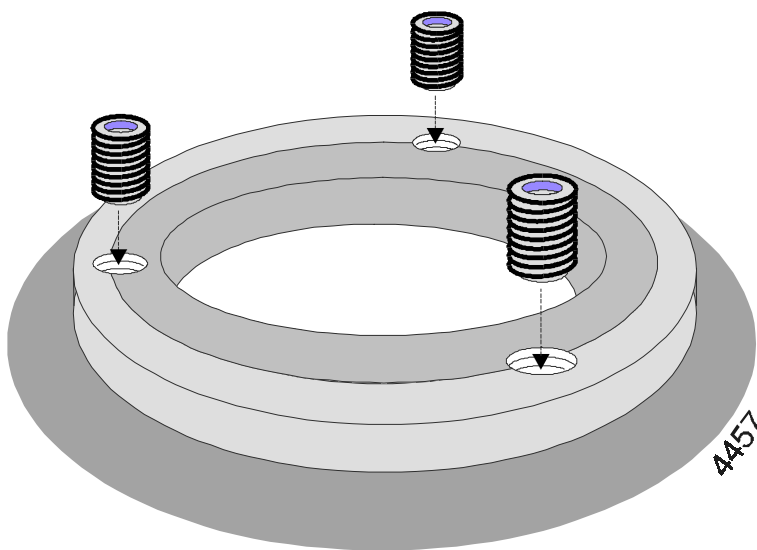

figure 10: Locking the wear rings.
- 4 Both wear rings then have to be secured. Drill 3 holes $\varnothing 5$ mm, 9 mm deep, right on the seam between impeller and wear ring c.q. pump casing and wear ring. Subsequently cut screw thread M6 (see figure 10).